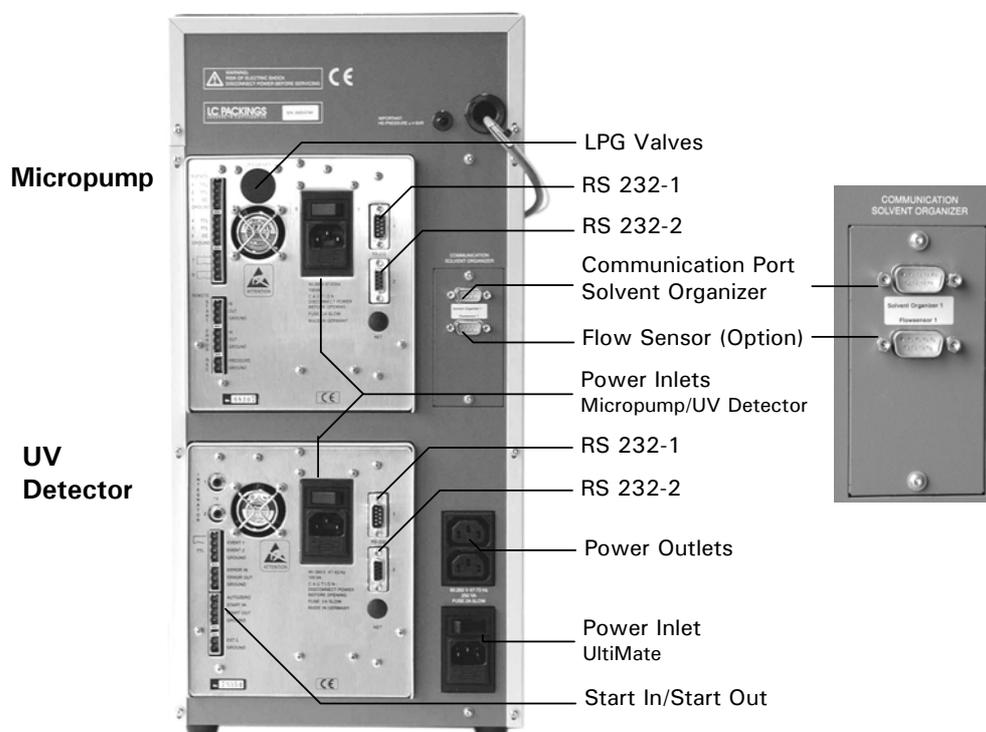
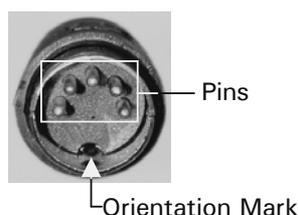

FIGURE 2-1 Rear View of UltiMate with Communication Ports/Power Connections
FIGURE 2-3 Connector Plug to Solvent Organizer Module
All electrical connections are made via the rear panel of the UltiMate system (FIGURE 2-1). The necessary cables are included with the instrument.
Carefully insert the black Solvent Organizer Cable in the LPG VALVES connector on the rear panel of the Micropump (FIGURE 2-1 and FIGURE 2-3).
Note: Make certain that the pins are positioned properly and the orientation mark on the plug is at the bottom before inserting it into the Micropump (FIGURE 2-3).
- a) Use the extension cords to connect the power inlets of Micropump and UV-Detector to the power outlets on the rear side of UltiMate (FIGURE 2-1).